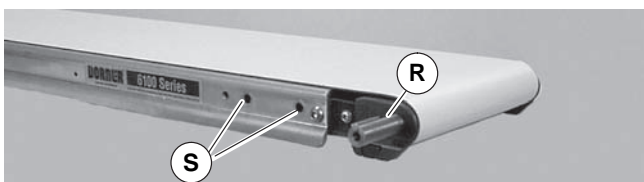

Figure 12
- Locate drive output shaft (Figure 12, item R) and remove two (2) screws (S).